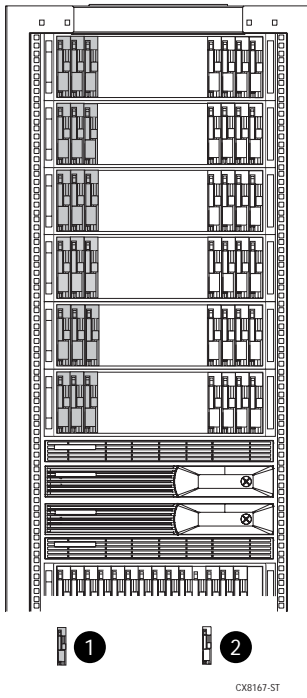

Figure 7 Sequential building of vertical disk groups
- Disk drives should be installed in vertical columns within the disk enclosures. Add drives vertically in multiples of eight, completely filling columns if possible. Disk groups are more robust if filled with the same number of disk drives in each enclosure. See Figure 7 for an example.
Add the disk drives required for the first disk group, and then create a disk group using these disk drives. Now add the disk drives for the second disk group, and then create that disk group. This process gives you control over which disk drives are included in each disk group. Figure 7 shows the sequential building of vertical disk groups.